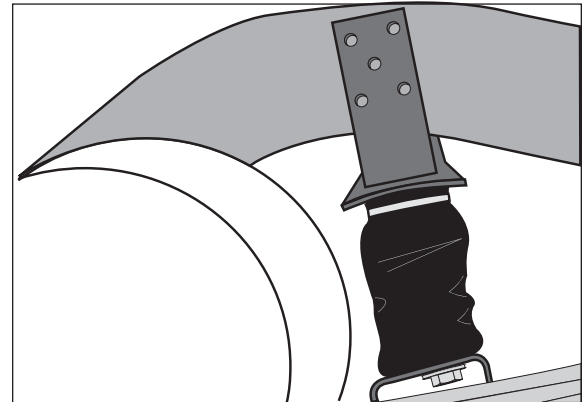

Figure 9
4. Using the upper bracket as a template, center punch one hole (Figure 9). A welding clamp or C-clamp may assist in holding the upper bracket to the frame.
5. Drill one  $\frac{5}{16}$ " hole and install one self-tapping screw (I). Tighten to 15 ft-lbs.
6. Centerpunch and drill remaining two holes and install the self-tapping screw (I). Again, torque to 15 ft-lbs. Do not over tighten.